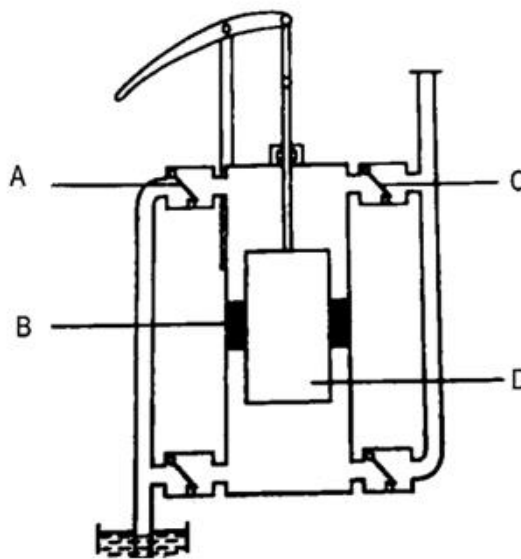

FIGURE 2
- 7.2 FIGURE 2 (below) shows a type of pump.
7.2.1 Name the category of pumps into which the pump shown in FIGURE 2 falls (1)